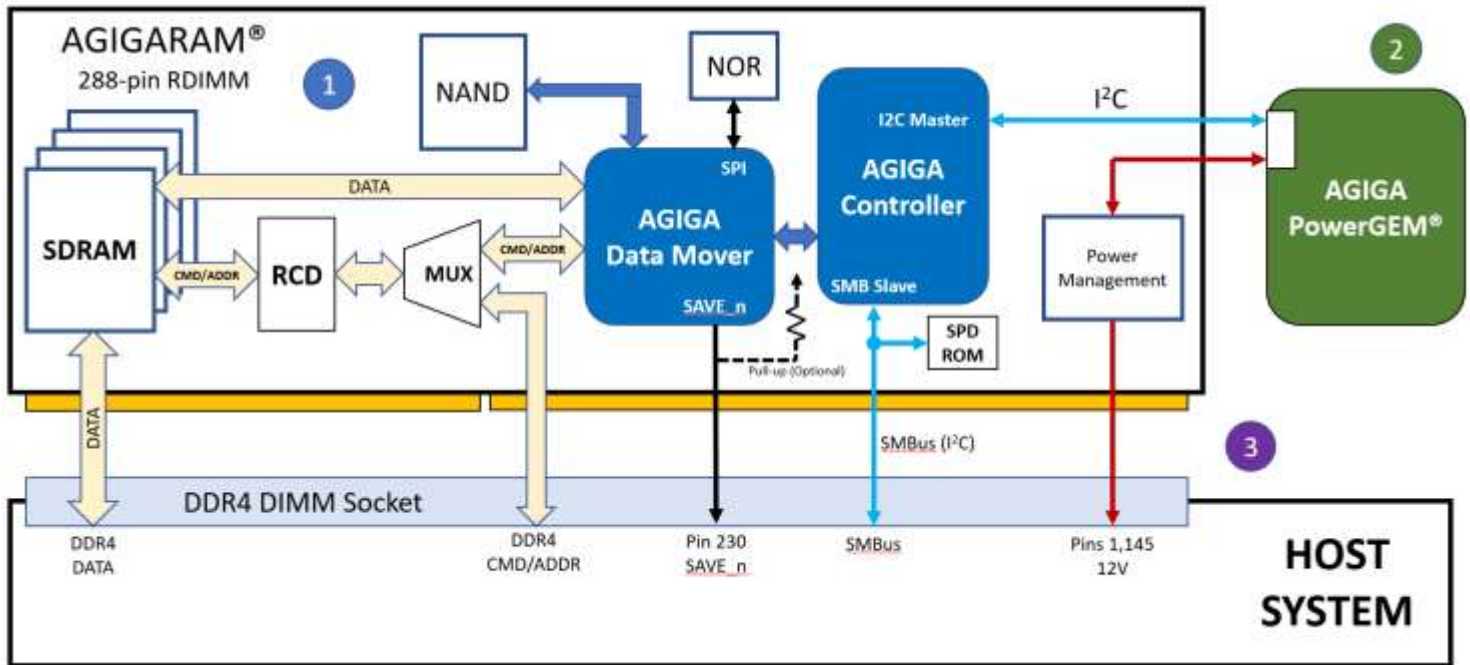

Figure 2: AGIGARAM DDR4NVDIMM System Block Diagram
| Aug 2020 | Changed to IFX Logo and company name Minor edits to Product Overview section Changed reference from “Backup” to “Save” to be consistent with JEDEC standard Updated Figure 2 to show SAVE_n pin (230) connects to AGIGA Data Mover instead of AGIGA Controller Updated t_{RC} parameter for PC4-3200 Added Timing Parameters and Operating Conditions to include 32GB module values Added “12V” parameter to Operating Conditions Updated I_{DDx} values and added 32GB values Updated J_{BACKUP}/J_{SAVE} values for both 16GB and 32GB Clarified Operating Conditions were measured using a 3200 speed module Updated DDR4 IDDx Specification and Conditions table Updated LED section to indicate a single multi-color 3 in 1 LED is used | 02 |